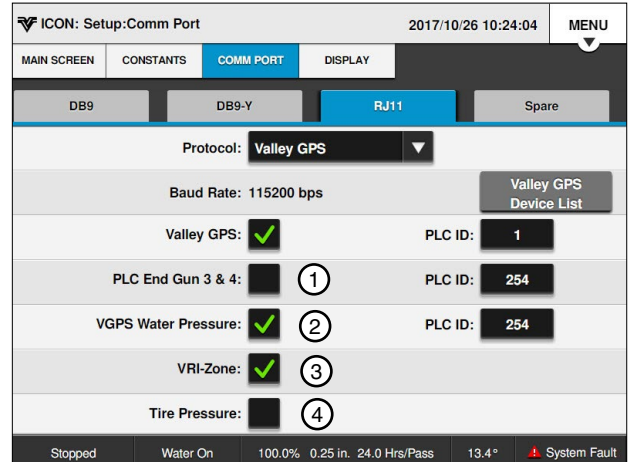

Figure 39-1 1. PLC End Guns 3 & 4 3. Tire Pressure
2. Check the **VGPS Water Pressure** checkbox to enable the monitoring system. Refer to Figure 39-1.
VRI-Zone is used to set the protocol for the VRI-Zone option. Refer to Figure 39-1.
2. Check the **Tire Pressure** checkbox to enable the monitoring system. Refer to Figure 39-1.